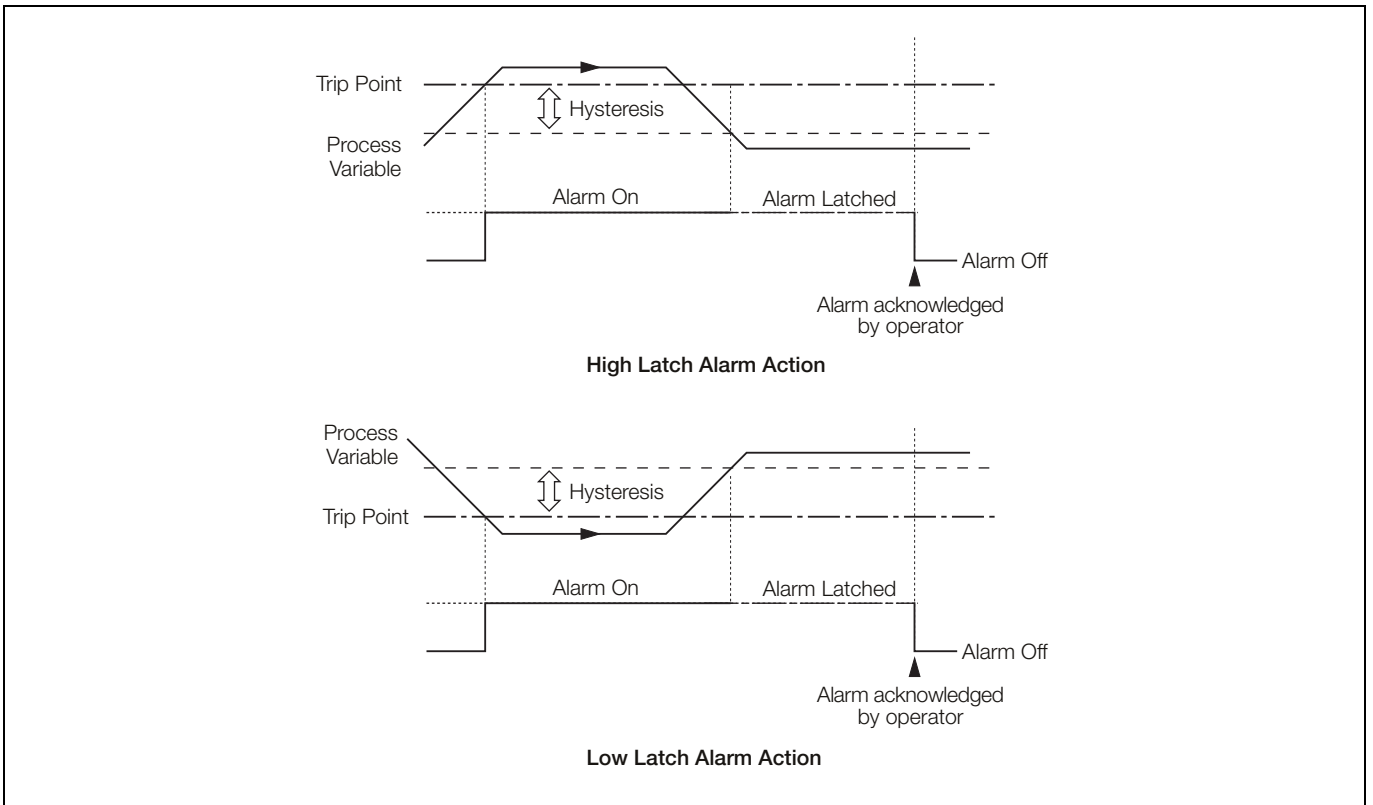

Fig. 6.15 High/Low Latch Alarms
- High/Low latch – see Fig. 6.15, page 93